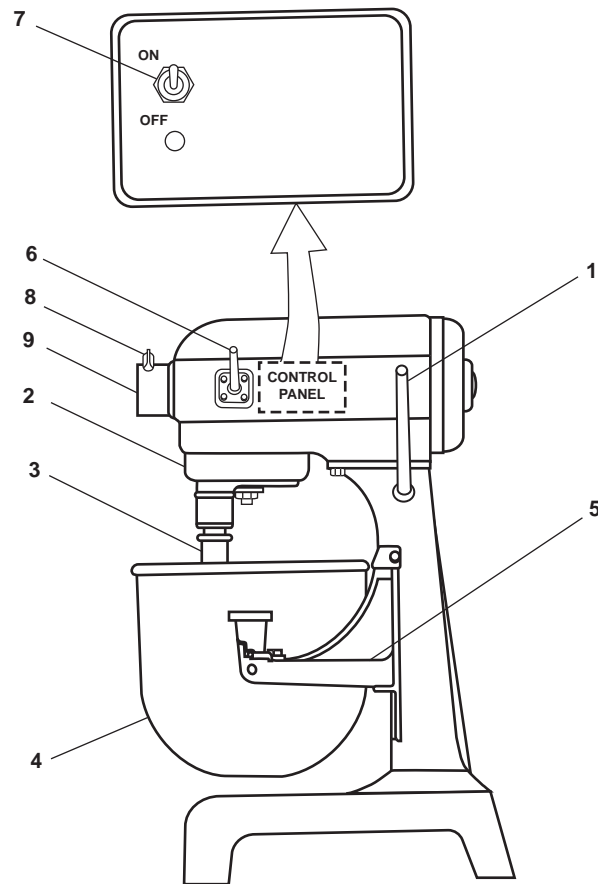

Figure 15. Electric Mixer
- a. Lower the bowl lift hand lever (figure 15, item 1) to the DOWN position.
- b. Select the desired attachment; line up the slots in the attachment spindle (figure 15, item 2) with the pins on the beater shaft (figure 15, item 3).
- c. Raise the attachment on the beater shaft (figure 15, item 3) and twist clockwise. When released, the attachment will drop slightly into the full locked position.
- d. Place the bowl (figure 15, item 4) on the bowl support (figure 15, item 5). Lock the bowl in place with the bowl retainer latches.
- e. Place the ingredients in the bowl (figure 15, item 4).
- f. Raise the bowl lift hand lever (figure 15, item 1) to the UP position.
- g. Select the desired speed on the gearshift lever (figure 15, item 6).
- h. Set the ON-OFF power switch (figure 15, item 7) to the ON position.
- i. When the mixing is complete, set the ON-OFF power switch (figure 15, item 7) to the OFF position.
- j. Lower the bowl lift hand lever (figure 15, item 1) to the down position.
- k. Remove the bowl (figure 15, item 4) from the bowl support (figure 15, item 5).
- l. Remove the attachment from the beater shaft (figure 15, item 3) by holding it near the top, raising slightly while twisting counterclockwise, and sliding it downward.
- a. Turn the thumbscrew (figure 15, item 8) counterclockwise so that it does not extend into the auxiliary drive socket.
- b. Remove the cover plate (figure 15, item 9) from the auxiliary drive socket.
- d. Turn the thumbscrew (figure 15, item 8) clockwise to lock the attachment in place.
- a. Set the ON-OFF power switch (figure 15, item 7) to the OFF position.